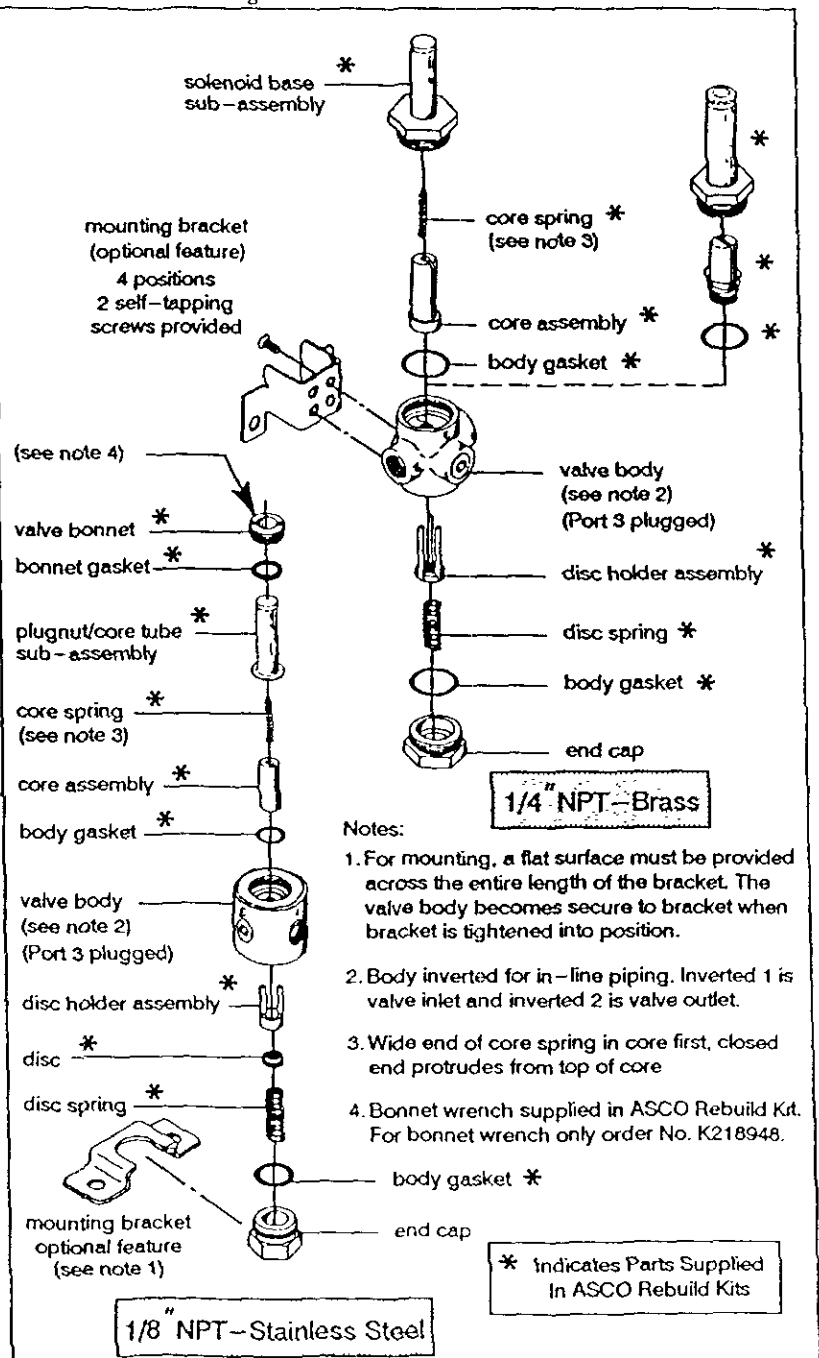

Figure 4. Series 8262, normally open construction.
- **Open-Frame Construction:** The green solenoid may be supplied with 1/4" spade, screw, or DIN terminals. (Refer to Figure 4)